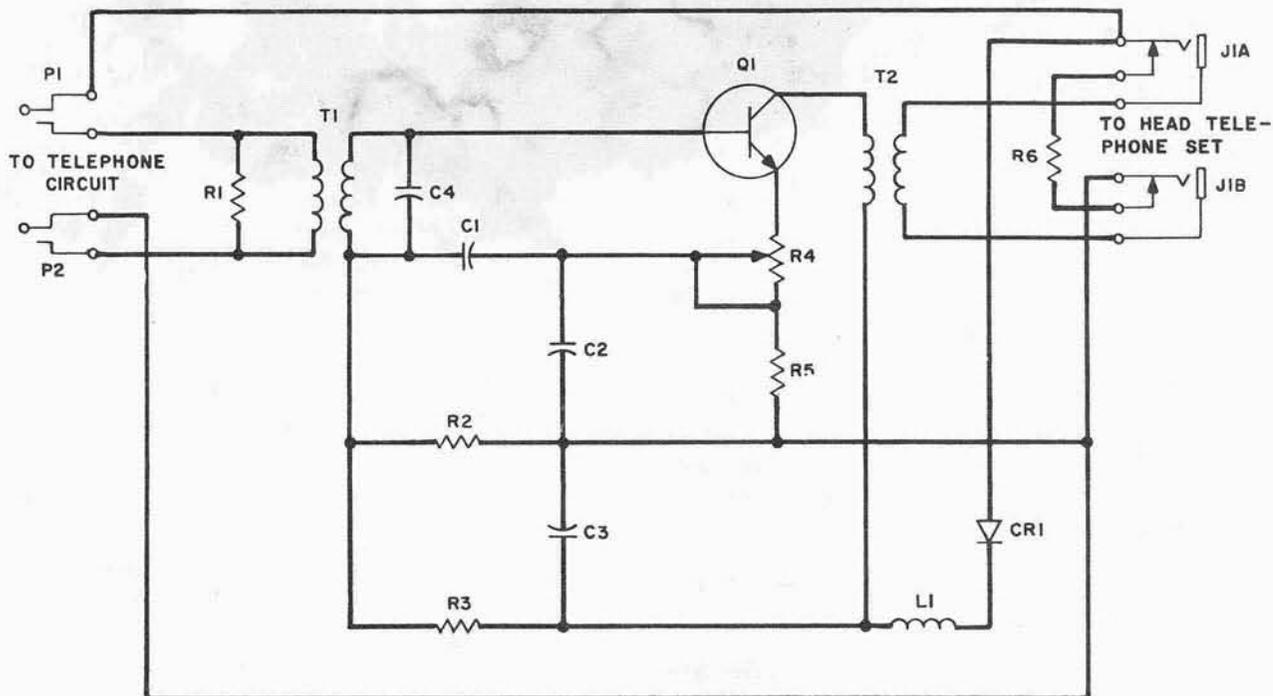

Fig. 3 - Schematic
2.02 The amplifier circuit is as shown in Fig. 3 and has a gain from approximately -2db to $+20\text{db}$. The nominal gain is 20db but due to variations in transistors and other components, the gain may range from -2db at the minimum setting to $+22\text{db}$ at the maximum setting. The required operating voltage is approximately 5 volts which is obtained from the transmitter battery supply of the telephone circuit.